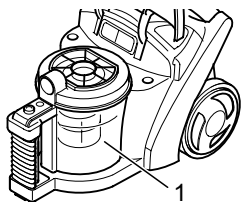

Fig. 17
2. Lift the dust container (Fig. 17/1) up out of the cylinder vacuum cleaner.